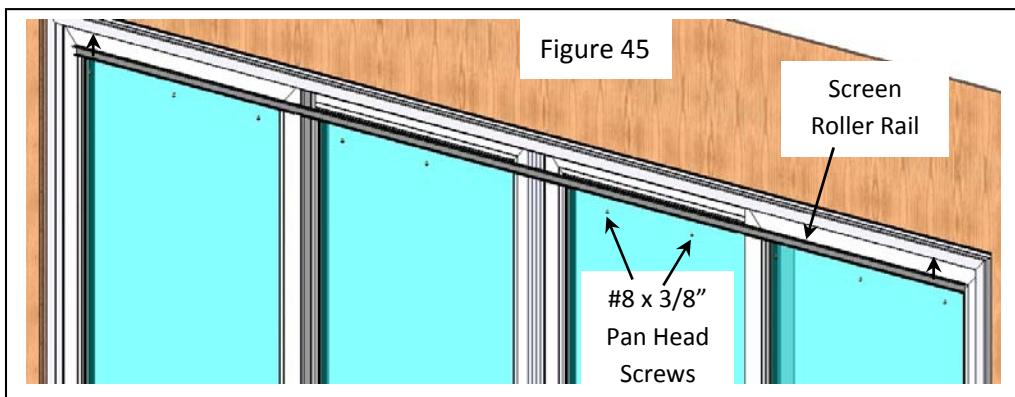

Figure 45
33) Install the aluminum top hung screen roller rail into the screen track in the head as shown (Figs. 45 & 46). The rail needs to be centered in the frame head, so measure to locate the center of the head and align with the center of the rail. Once positioned, install #8 x 3/8" Pan Head screws into all the pre-punched holes in the rail and up into the head.